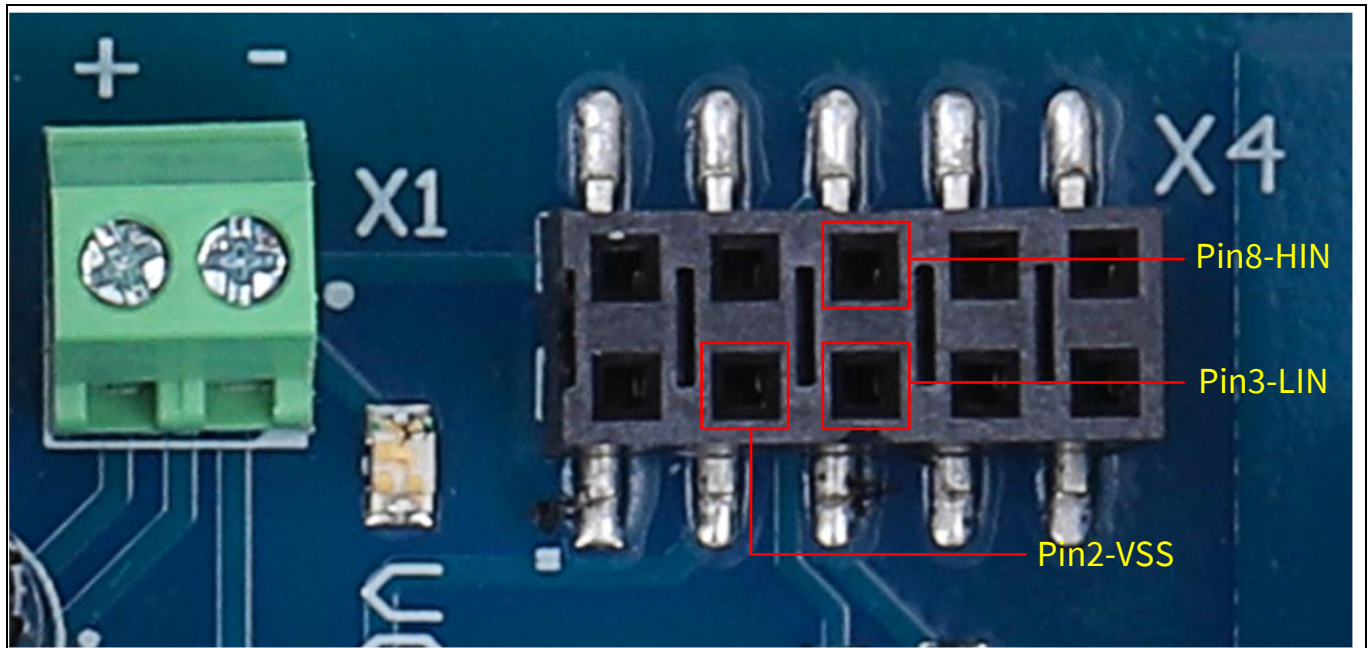

Figure 2 Connection of digital interface X4 to the BootKit XMC1300
2. Connect JP104 of the BootKit XMC1300 to the connector X4 of the evaluation board, as indicated in Figure 2. (Alternatively, connect the first PWM output of the signal generator to X4.3 (LIN) and X4.2 (VSS) and the second PWM output between X4.8 (HIN) and X4.2 (VSS) if 2ED21824S06 is used. If 2ED21844S06 is used, connect the PWM output of the signal generator to X4.8 (HIN) and X4.2 (VSS) and connect X4.3 (LIN) to 5 V)